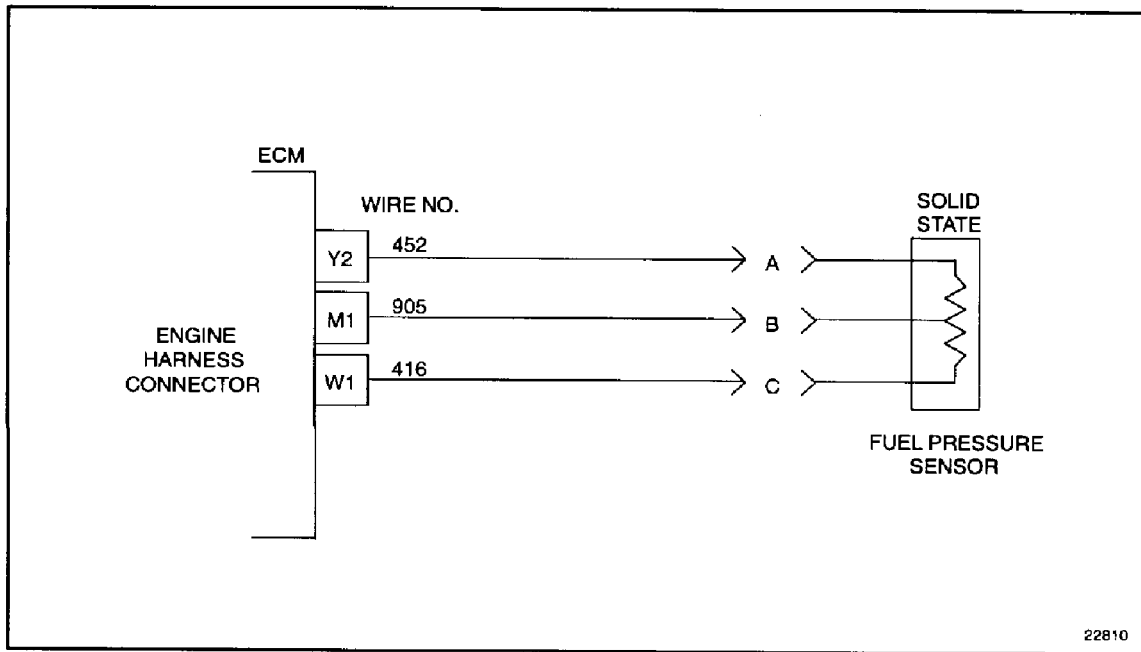

Figure 37-2 Engine Harness Connector to Fuel Pressure Sensor
2. Disconnect FPS connector. See Figure 37-2.